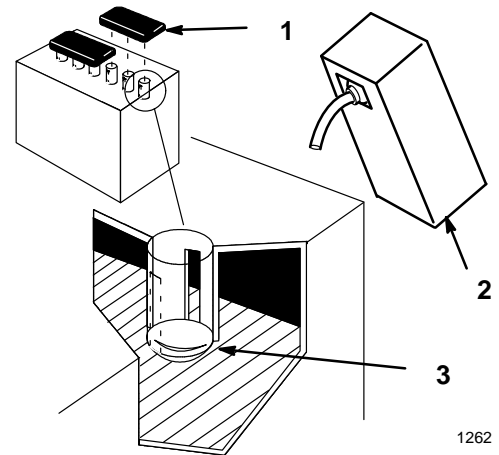

Figure 3
2. Remove filler caps from the battery. Slowly pour electrolyte into each cell until the electrolyte level is up to the lower part of the tube (Fig. 3).
5. Slowly pour electrolyte into each cell until the level is up to the lower part of the tube (Fig. 3) and install covers.